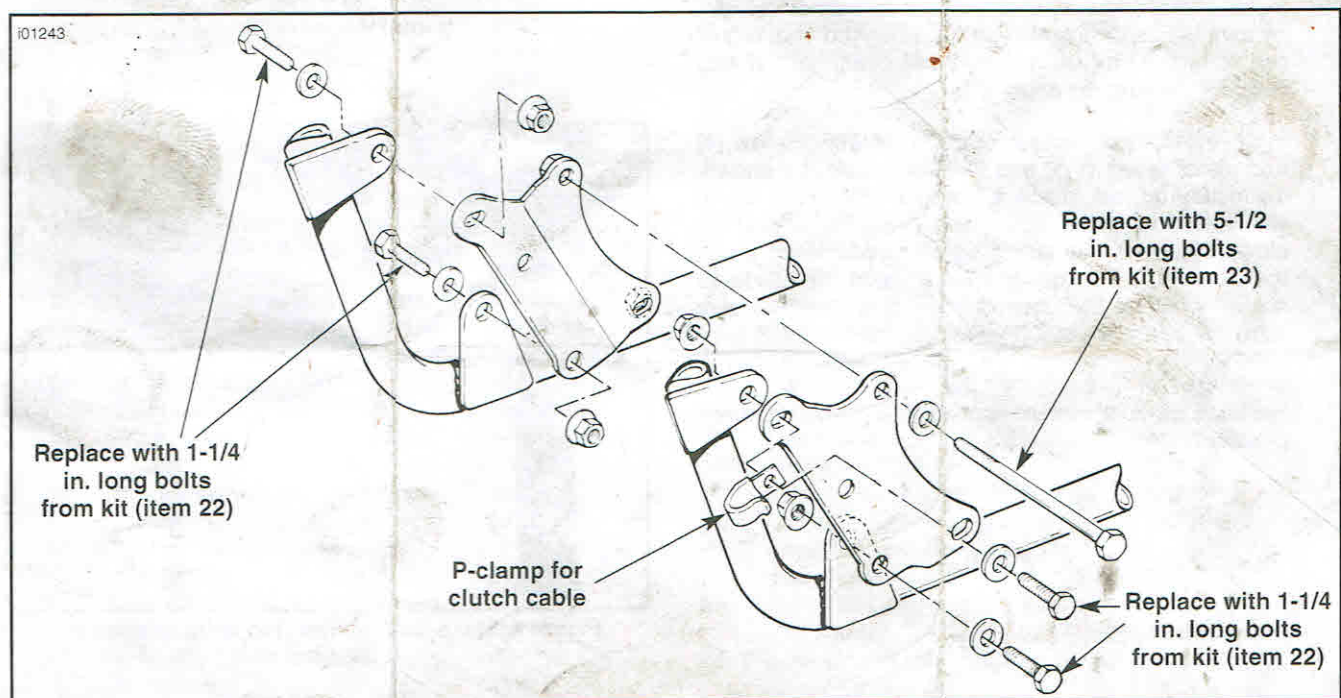
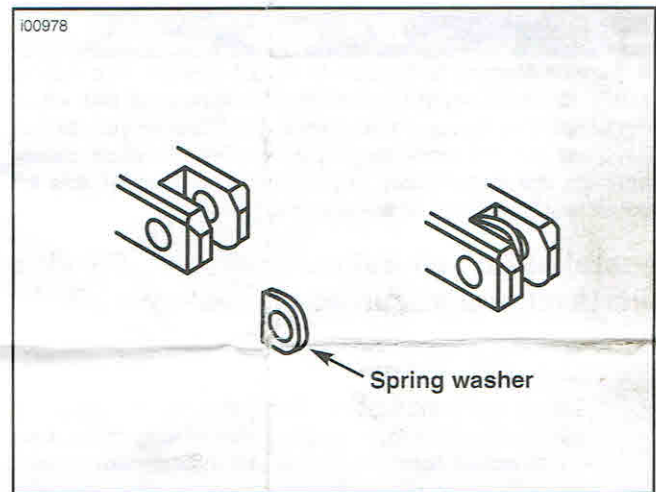

Figure 1. Stock Front Motor Mounts
Figure 3. Footrest
1. Remove stock footrest assembly and save footrest for reinstallation. Replace existing sockethead capscrews that attached footrest bracket to primary cover with washers (5) and shorter screws (21) from kit.
3. See Figure 1. Remove left side stock motor mount and save nuts, washers, and P-clamp for clutch cable. The bolts will be replaced.
4. Put Loctite 243 on threads of left side foot control support (15) and thread support into left side machine motor mount (11). Install C-clip (8) onto support where it exits the backside of machine motor mount to hold support in place.
6. Install shift lever (11) from kit using stock fastener.
7. Put Loctite 243 on threads of clevis mounting screw (4) and install shift lever pedal (13), clevis (17), and footrest (stock), as shown. To install footrest, place a spring washer (19), along with the mount end of the footpeg, inside the slots of the clevis. Make sure the spring washer is positioned inside the clevis with the square edge towards the inside as shown in Figure 3. Secure footpeg and spring washer with bolt (2) and locknut (7). Tighten locknuts to 19 ft-lbs (26 Nm).
- See Figure 1. Remove right side stock motor mount and save nuts and washers. The bolts will be replaced.
- Put Loctite 243 on threads of right side foot control support (16) and thread support into right side machine motor mount (10). Install C-clip (8) onto support where it exits the backside of machine motor mount to hold support in place.
- Install brake pedal assembly (18) into master cylinder by turning push rod at flats to thread on rod end. Adjust rod length with jam nut (6) until brake pedal has reached a 45 degree angle.
- Put Loctite 243 on threads of clevis mounting screw (4) and install clevis (17), and footrest (stock), as shown. To install footrest, place a spring washer (19), along with the mount end of the footpeg, inside the slots of the clevis. Make sure the spring washer is positioned inside the clevis with the square edge towards the inside as shown in Figure 3. Secure footpeg and spring washer with bolt (2) and locknut (7). Tighten locknuts to 19 ft-lbs (26 Nm).